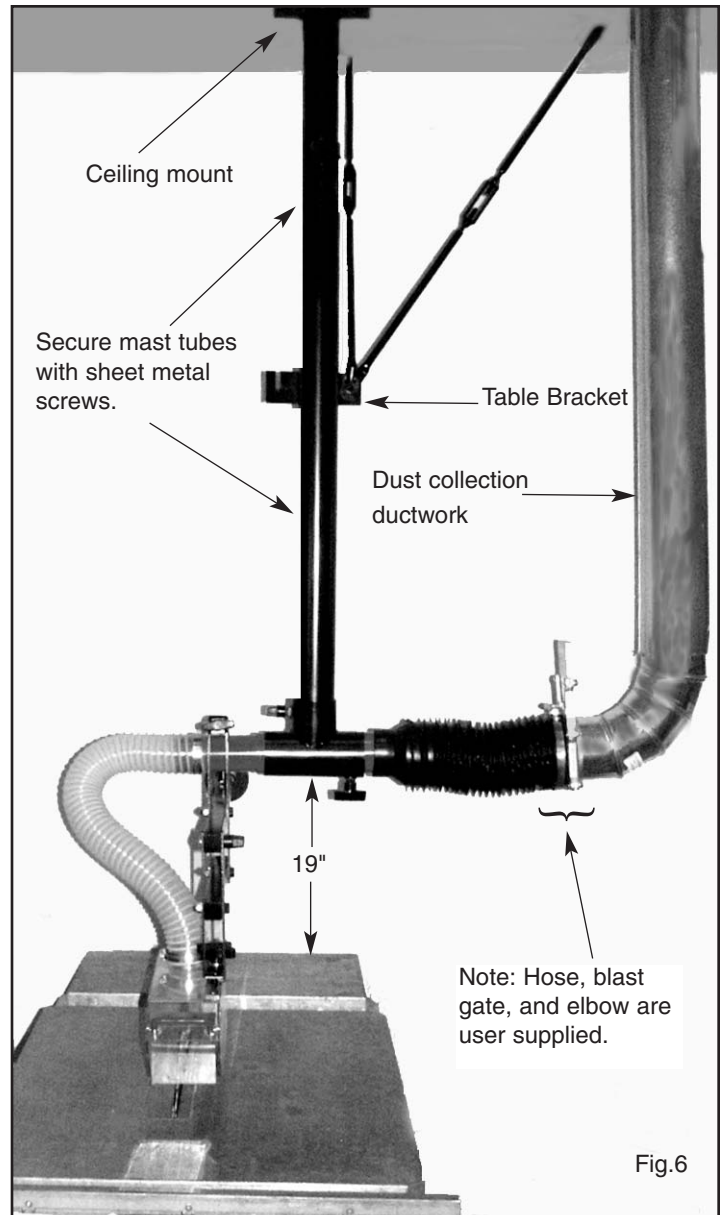

Fig.6
If you want complete clearance around your table saw, it is possible to mount the #TSGUARD on the ceiling, as shown in Fig. 6. Carefully pick a spot to mount the mast base on the ceiling so that it will be secure. Extend the mast so that the center point of the boom to mast connector (6) is about 19" above the saw table.
- Tighten the lock knobs to secure the mast sleeves and mast to the boom connector. Mount the turnbuckles (10) to the table bracket and secure them to the ceiling.
- Slide the 13" short boom assembly (4) through the mast to the boom "T"-connector (6), secure it with the knob and attach it to the suspension assembly.